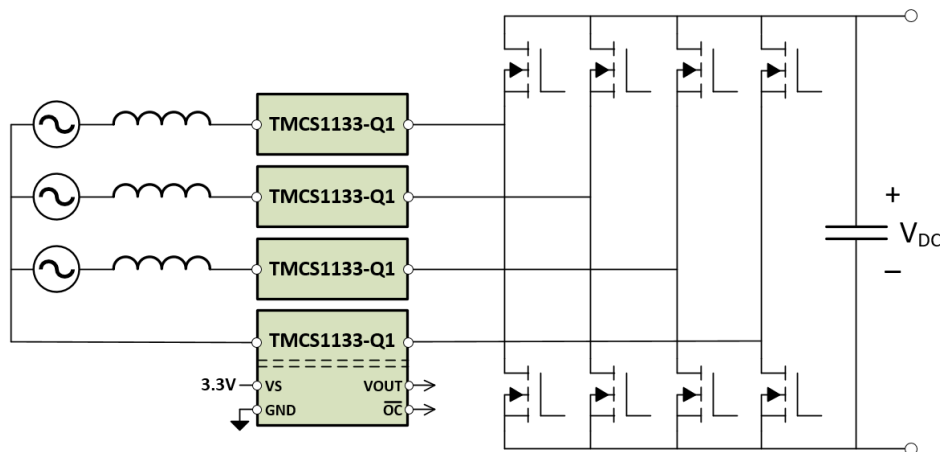

Figure 9-2. AC to DC Converter Current Sensing
In many applications, power must be converted from AC sources for use in DC circuitry. Some type of controlled power factor correction (PFC) stage is typically needed to improve power transfer efficiency. Faster and faster power switches are being used in modern PFC stages to reduce overall size and to improve power transfer efficiency. Often, the PFC stage of AC to DC converters is connected directly to AC power grids. A primary challenge to sensing in PFC stages is that the current sensor is subjected to large voltage spikes coming from the high-voltage (HV) power grid along with large transients coming from high speed power switches during charge transfer. Inherent isolation in the TMCS1133-Q1 construction helps overcome these challenges by providing high levels of isolation between the HV current sensing nodes and low-voltage control circuitry, with high common-mode transient immunity (CMTI). Figure 9-2 shows the use of the TMCS1133-Q1 measuring phase currents in a common AC to DC converter stage.